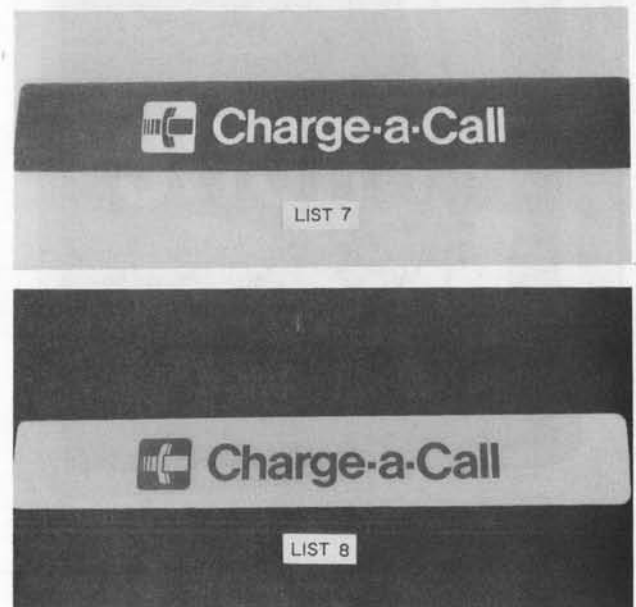

Fig. 1—♦KS-19945, Lists 7 and 8 Signs♦
2.01 Two signs are available (Fig. 1):